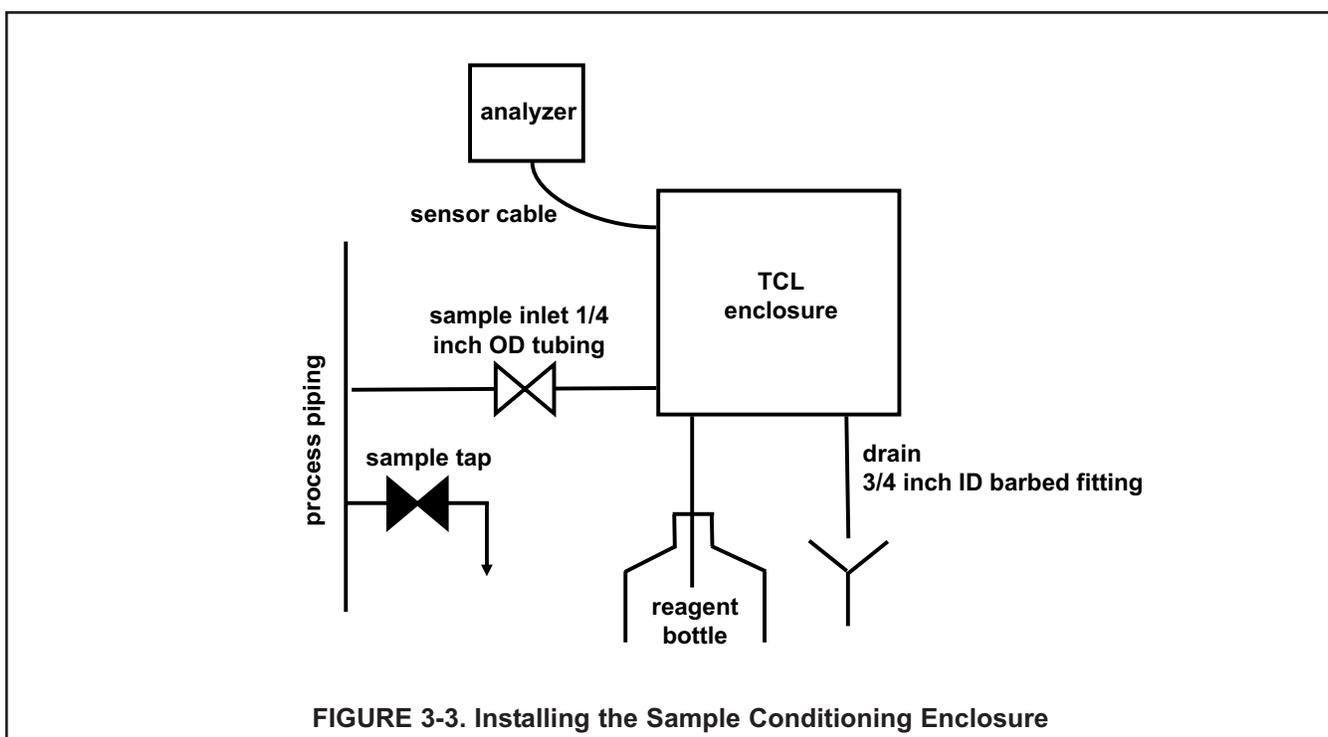

FIGURE 3-3. Installing the Sample Conditioning Enclosure
1. Refer to Figures 3-3, 3-4, and 3-5 for installation details.